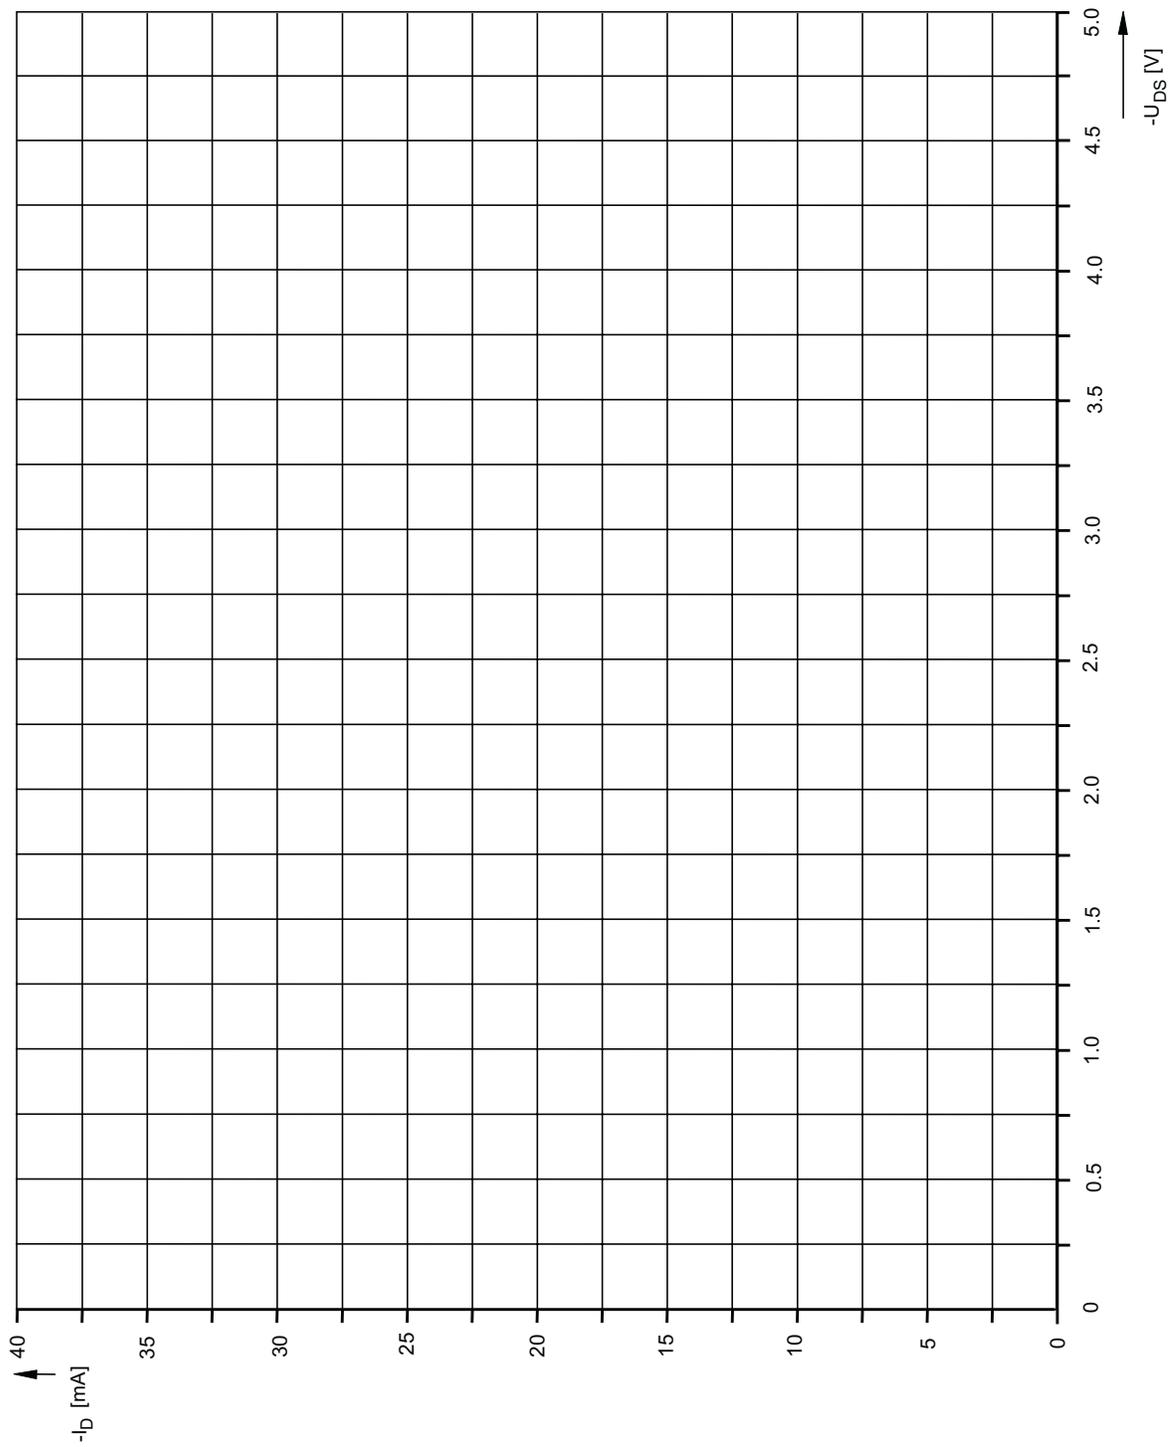

Fig. 6.2.2.2
- On the diagram (Fig. 6.2.2.2), plot a graph showing the dependence of the drain current  $I_D$  on the drain/source voltage  $U_{DS}$  for each of the gate/source voltages.